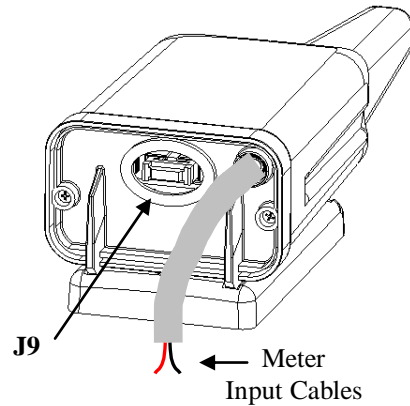

Figure 1: MT2W-MK™ View
MT2W-MK™ has one connector (see Figure 1).
- J9:** The 10-pin programming jack is a serial port to connect a PC or a FTU (see Figure 1).
- Insert the terminator to J9 (See figure 1)